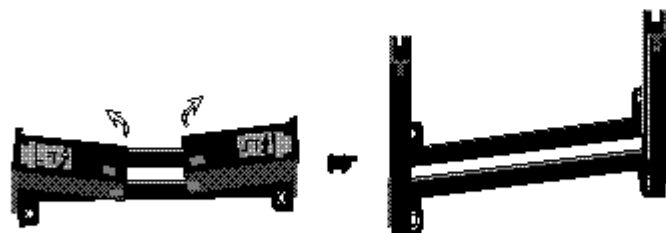

Figure 8
❶ First, please refer to figure 8 below, and follow the direction to lift up the fixed foldable pentium® II Retention Mechanism. This pre-installed device is designed for you to install Pentium® II CPU more easier and to avoid any damage on the board due to overtightening the four screws.
❷ One thing must be kept in your mind that please make sure to lift upright the foldable parts of the Retention module to fit and install CPU properly.
Figure 9 shows the layout of Slot 1 and the holes for mounting the Heatsink base piece (figure 8).